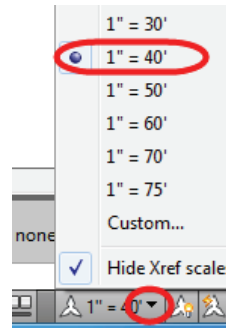

Figure 2–2
- To make the annotation easier to read, change the current drawing scale. In the Status Bar, set the Annotation Scale to **1:40**, as shown in Figure 2–2.